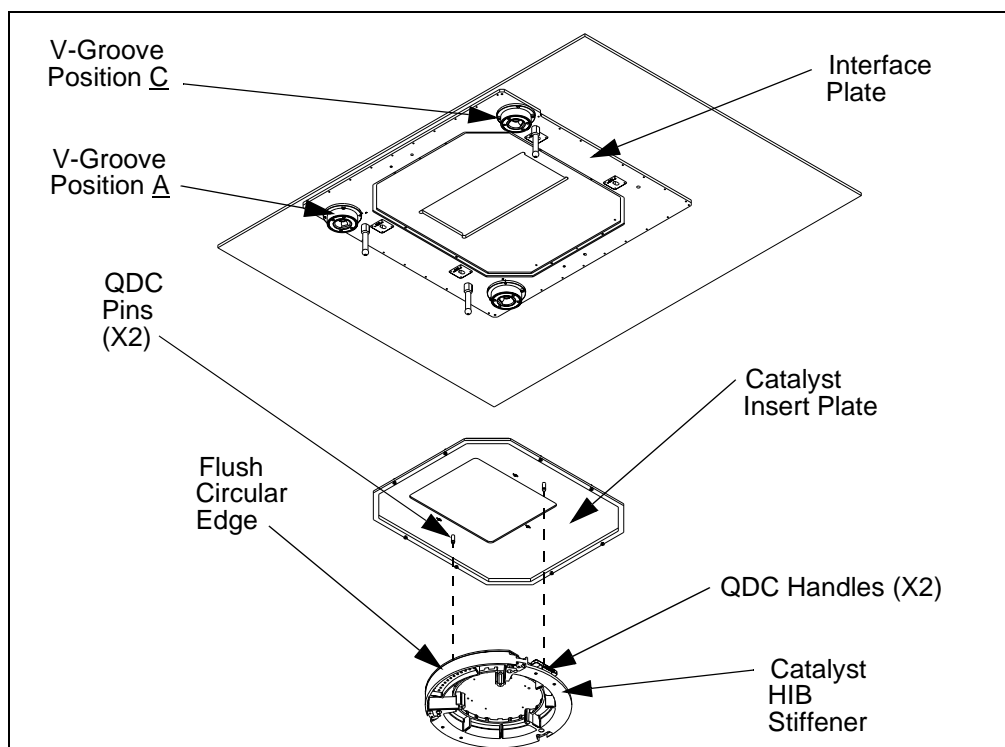

Figure 16 Attaching the HIB Stiffener to the Insert Assembly Plate
- 2) To attach a Catalyst HIB stiffener, orient it with the flush circular edge positioned towards the A and C V-groove positions (see Figure 16).